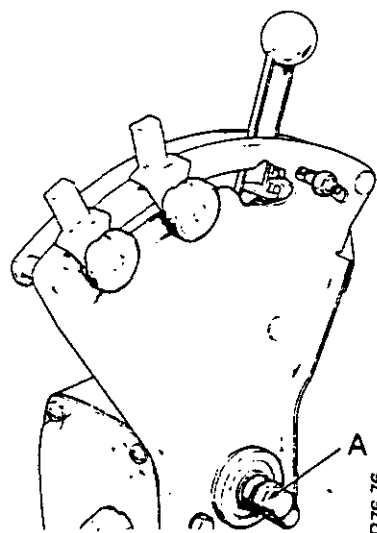
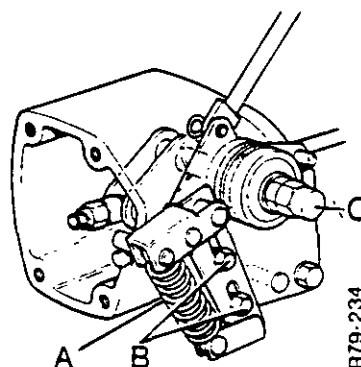

FIGURE 179. FRICTION DISC SETTING
FIGURE 181. QUADRANT SPRING SETTING FOR TRACTORS WITH CAB
1. Move the quadrant lever backward and forward. It must be tight enough to stay in position when the engine is running. Any vibration from the engine must not move the quadrant lever. Tighten or loosen the nuts 'A' Figure 179 until the amount of friction is correct (for tractors without cab). Tighten or loosen the nuts 'C' Figure 181 for tractors with cab.
Repeat sequence of operations as for tractors without cab. The spring carrier is fitted to the side of the quadrant housing. Loosen the nuts 'B' Figure 181 to adjust the position of the spring carrier.